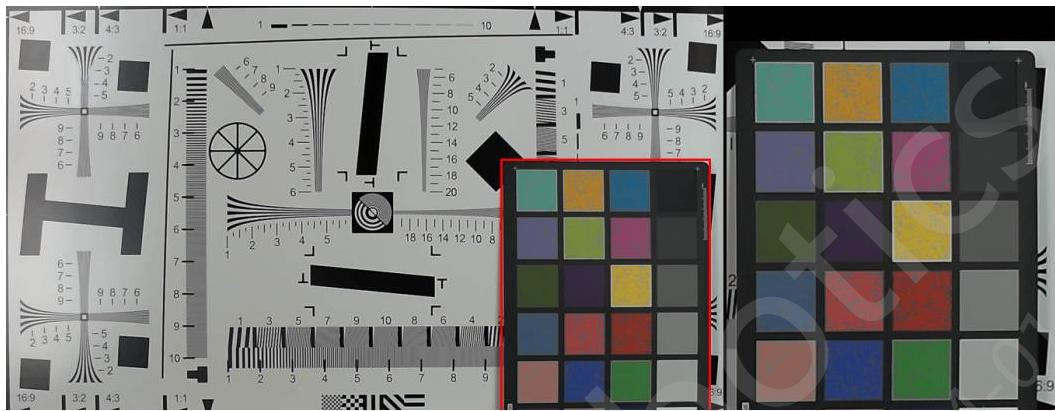

Figure 3.15-9 Example of reduced false color, ColorChecker artifacts and color fade.
10. Increase FC\_slope to the point where false color is reduced/removed and artifacts start to appear in the ColorChecker chart patches, seen in Figure 3.15-9. Evidence of color fading is also apparent in this figure, when this occurs stop increasing FC\_slope. Typical values are between 110 and 160.